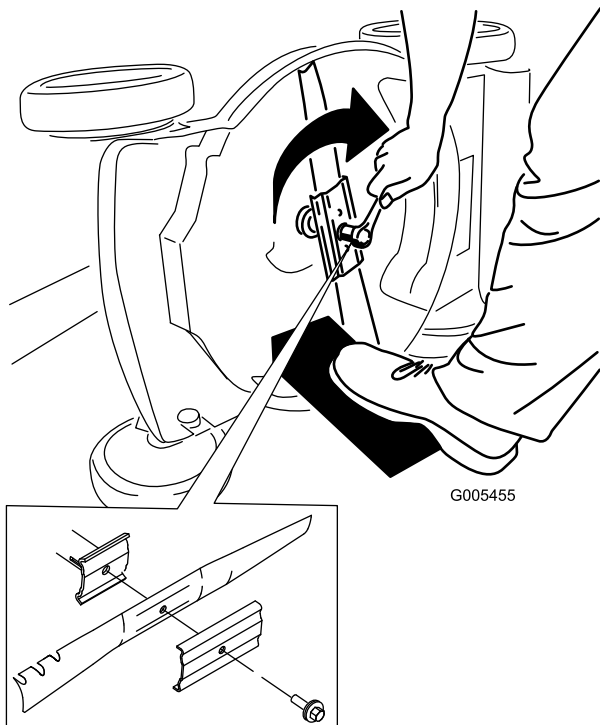

Figure 42
5. Install the new blade and all mounting hardware (Figure 42).